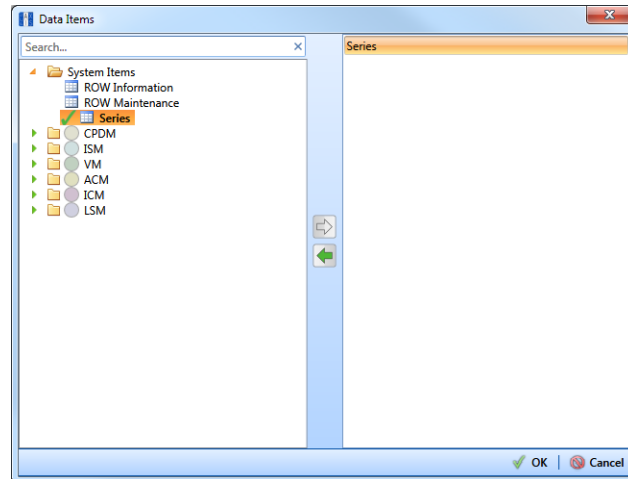

Figure 10-51. Data Items
- 7 Click  **Add Data Item** to open the *Data Items* window and then complete the following steps (Figure 10-51, page 507):